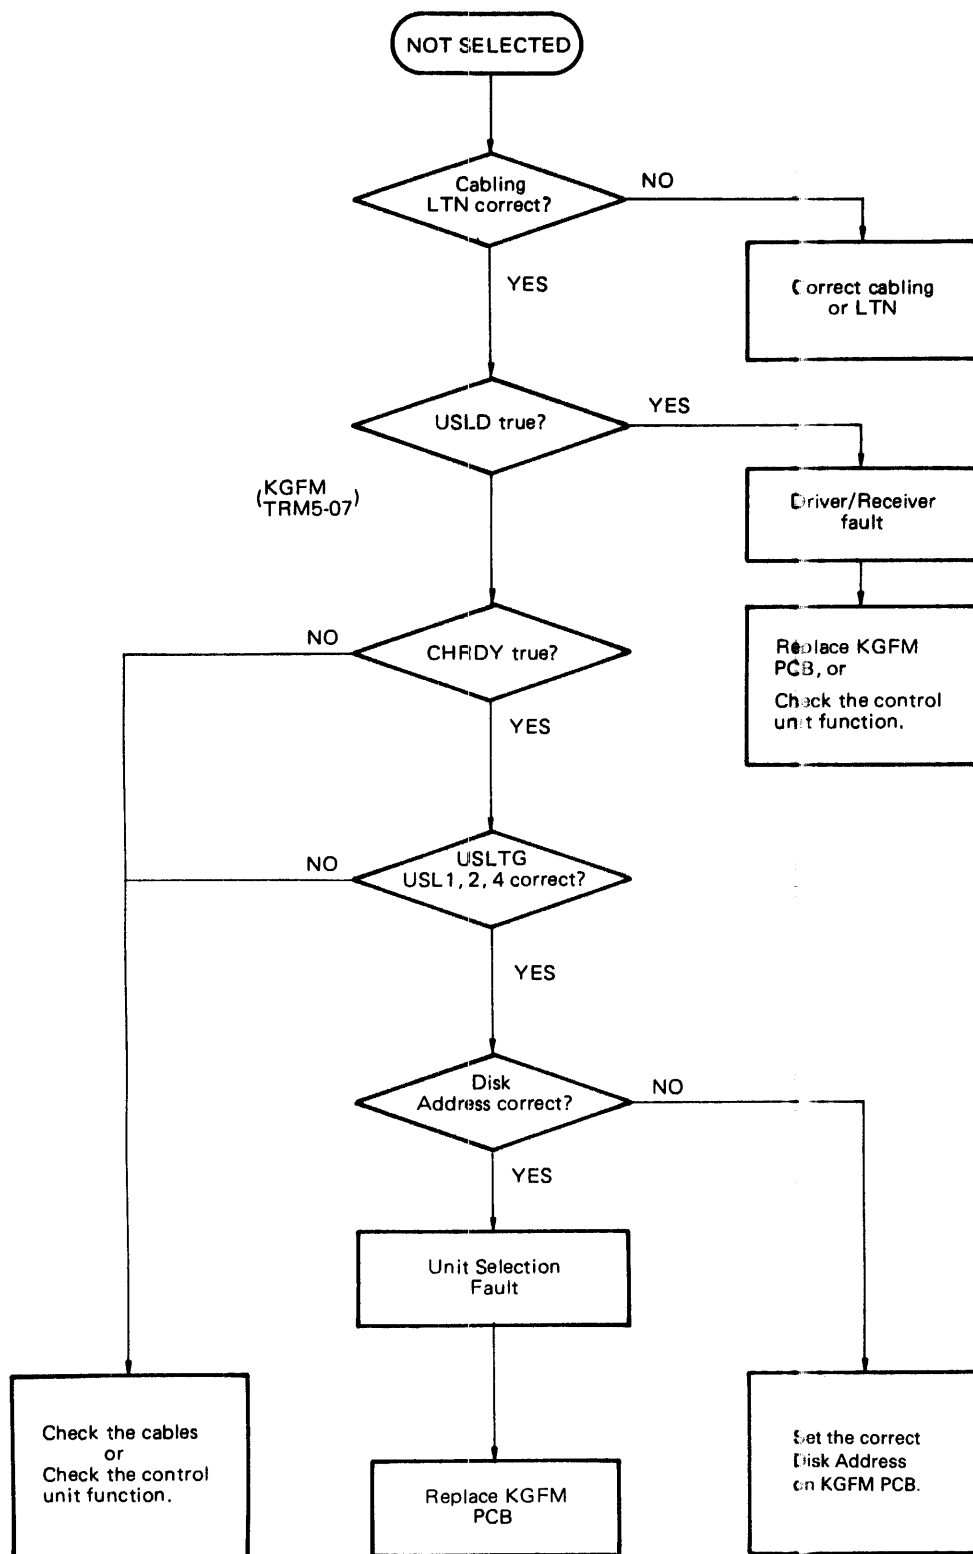

Figure 5-5-2 Not Selected Flow Chart
- Figure 5-5-2 Not Selected (page 5-9)